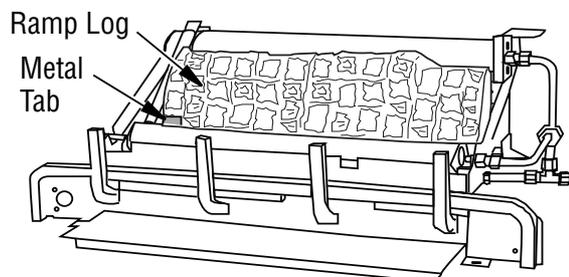

Figure 24 - Installing Fiber Ramp Log
1. Place fiber ramp log in center of chassis as shown in *Figure 24*. The fiber ramp log can be identified by the shape and much lighter weight when compared to the other logs. The log must sit flat on the black sheet metal and behind the left metal tab as shown. Make sure the side marked "BOTTOM" is setting down.